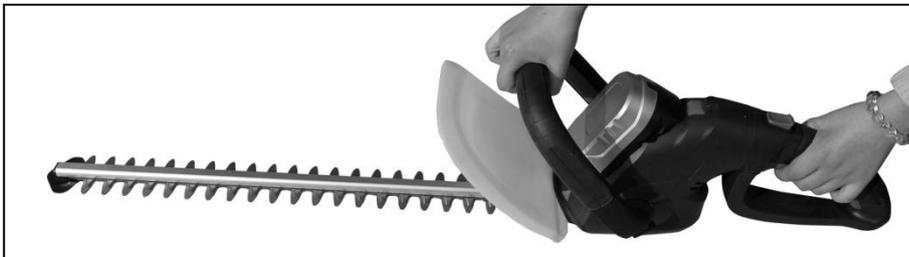

Fig. 14
1. Starting and Stopping (Fig.14)